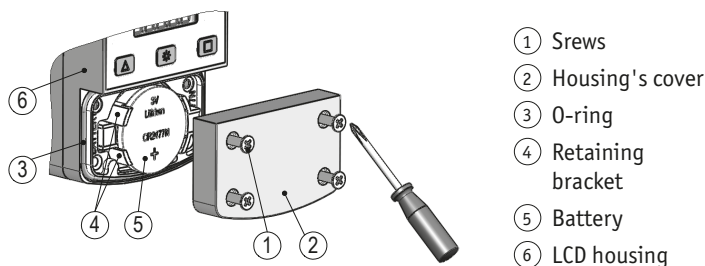

Fig. 9: Battery change
- ▶ Evenly tighten the screws ① until the housing's cover ② is completely aligned with the LCD housing ⑥ (see Fig. 9).
**Deinstallation (see Fig. 9):**
1. The battery compartment is situated behind the cover of the housing's cover ②, below the LC display.
2. Unscrew the screws ① until you hear a click.
4. Remove the housing's cover (2) inclusive the plugged screws.
5. Caution! O-ring (3) may fall out.
6. Optionally bend outward one of the retaining bracket (4) for the battery using your fingers.
7. Grasp the used battery (5) at the upper edge and pull out axially (for the disposal of the old battery refer to chapter 7).
#### Installation (see Fig. 9):